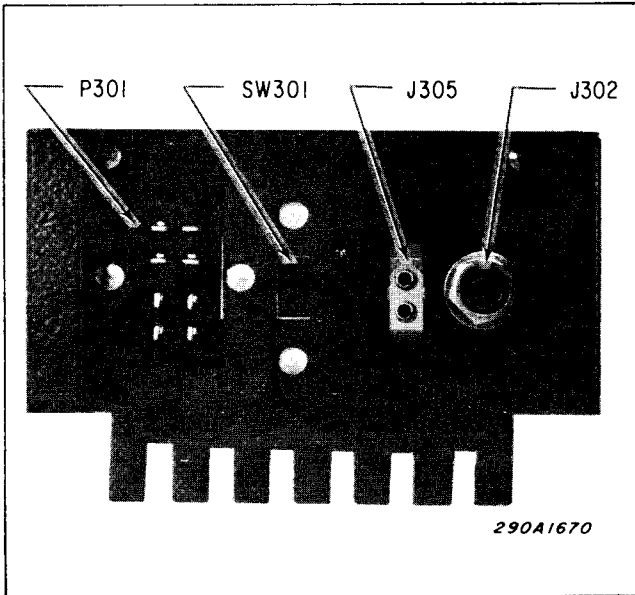
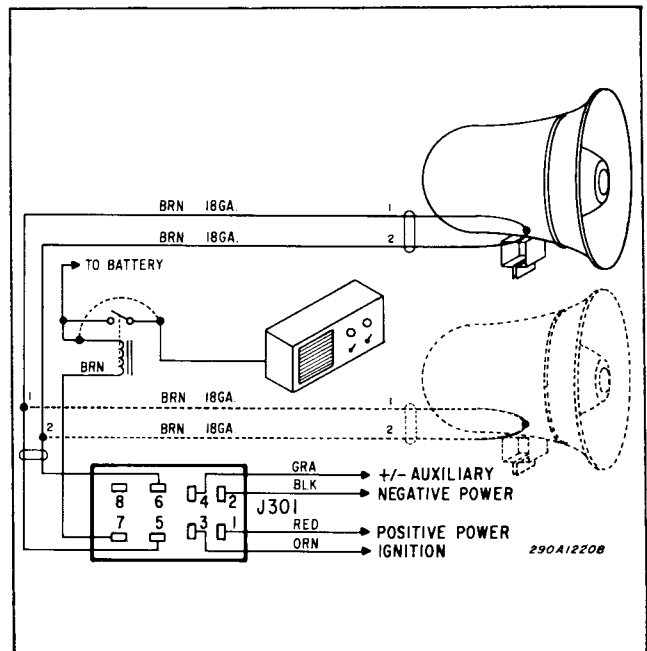

Figure 3-2 PA2010B Rear View
Figure 3-3 58 watt and 100 watt Speaker Connections
A. The power cable included in the carton is equipped with an 8-prong plug (J301) that mates with connector P301 on the rear of the electronic siren (see figure 3-2). The various wires on the connector must be connected as described in the following paragraphs.
See figure 3-2 for the location of SW301. Connect the speaker leads to the brown zip cord leads (J301, pins 5 and 6) as shown in figure 3-3.
When 100 watt speakers such as Federal's CP100 or TS100 are being installed, set SW301 to HI before connecting the speakers to the siren. Use 18 AWG wire as indicated in figure 3-3.
When two speakers are used, it is necessary to connect the speakers in parallel and in phase for optimum performance. Connect the speaker leads marked "1" to the same power cable lead, and the two speaker leads marked "2" to the other power cable lead (see figure 3-3).
The PA2010B has the capability to be operated from an auxiliary switch (foot switch, horn switch, etc.). To take advantage of this feature, connect the auxiliary switch between the gray power cable lead (J301, pin 4) and vehicle chassis ground (see figures 3-3 or 3-4). The PA2010B siren will respond to both positive and negative auxiliary circuits without regard to polarity and without adjustment.
B. Connect the relay to the brown wire as shown in figures 3-3 or 3-4.